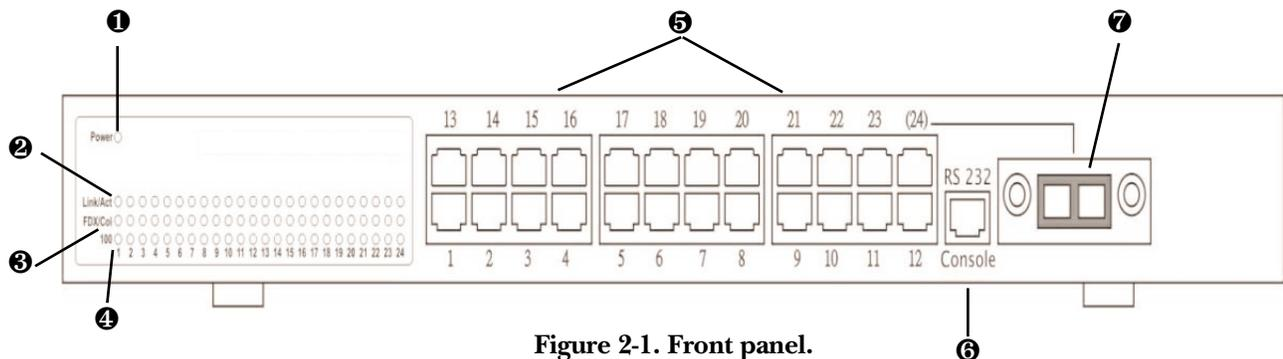
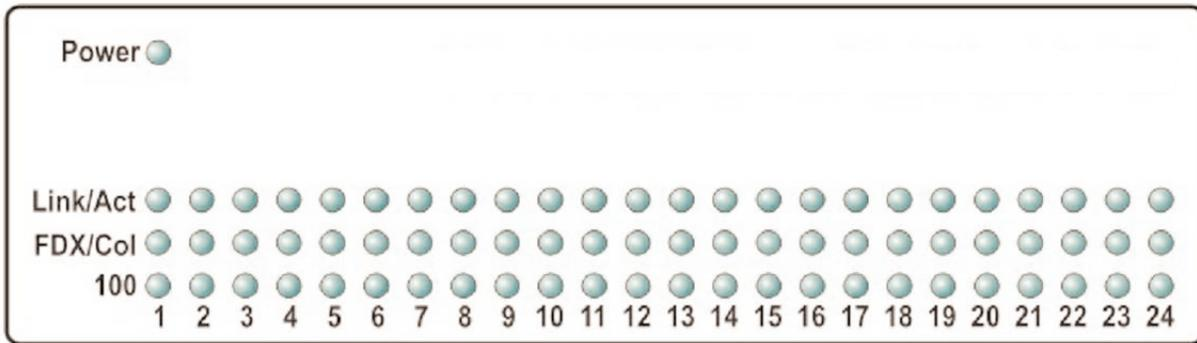

Figure 2-1. Front panel.
Figure 2-2. LEDs.
The switch's front panel is shown in Figure 2-1. The LEDs shown (for a closer look, see Figure 2-2) include a power indicator and three sets of per-port LEDs. The per-port LEDs include Link/Act, FDX/Col, and 100. The switch has 24 RJ-45 port connectors, 1 RJ-45 RS-232 console connector, and 1 fiber slide-in slot for multimode or single-mode module with 2 SC or ST connectors. The circled numbers labeling the indicators and connectors in Figure 2-1 correspond to the numbers listed in Table 2-1.
❶ Power LED	This indicator lights when the switch is powered on.
❷ Link/Act LEDs	These per-port indicators light when there’s a functioning network link with an attached device through the corresponding port. Link/Act LEDs blink to indicate that the switch is actively sending or receiving data over the corresponding port.
❸ FDX/Col LEDs	These per-port indicators light when the connected port is operating in full duplex mode. The LEDs remain off when the connected port is operating in half-duplex mode. They blink when the connected port is under collision status.
❹ 100 LEDs	These indicators light when the connected port is operating at 100 Mbps. When the LEDs stay dark, the port is operating at 10 Mbps while the network is on.
❺ RJ-45 ports	24 RJ-45 connectors for links to network devices.
❻ RS-232 console port	One RJ-45 connector that attaches to a user console for out-of-band management.
❼ Fiber slot	Install a multimode or single-mode fiberoptic module (LGB2007C-SC, LGB2007C-ST, or LGB2007C-SSC) in this slot. Each module has two SC or ST® connectors. A module is shown installed in Figure 2-1.